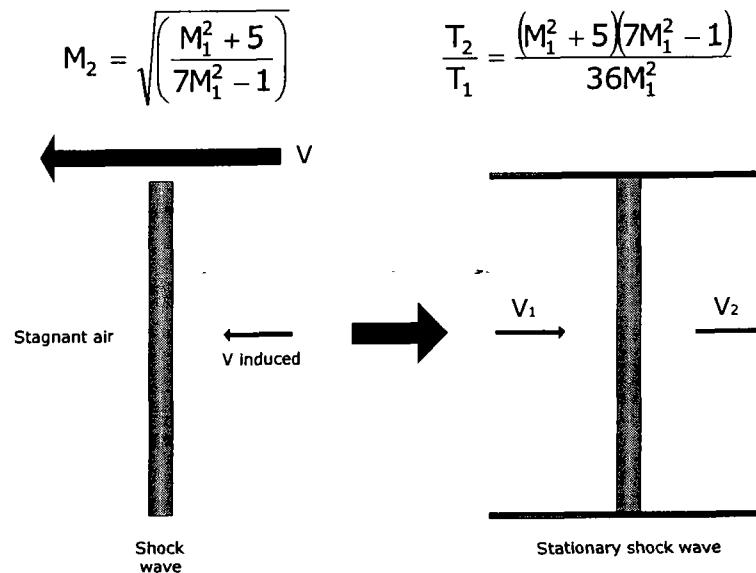

Figure Q4[b]
- [b] A normal shock wave propagates through stagnant air at standard conditions at a speed of 720 m/s as shown in Figure Q4[b]. Determine the speed induced ($V_2 - V_1$) immediately behind the shock wave. Take $T = 20^\circ\text{C}$ and $\gamma = 1.4$.